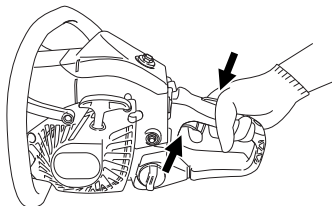

Fig. 14
6. As soon as engine start, pull throttle lever full once and release immediately. (Fig. 14)